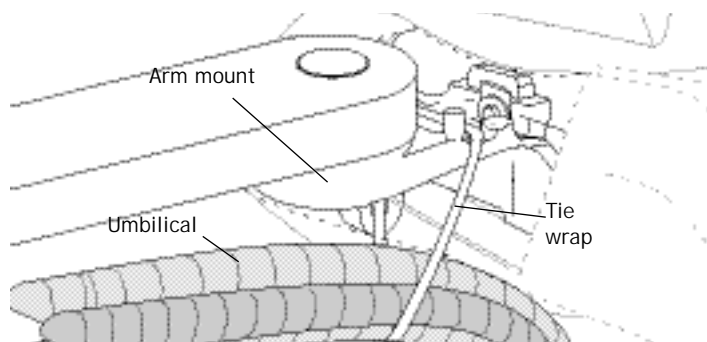

Figure 22
- Secure the cuspidor umbilical to the arm mount with a tie wrap (see Figure 22).